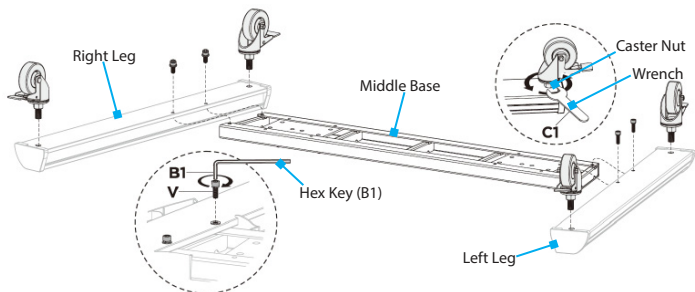

Figure 1
1. Flip the **Middle Base, Left Leg, and Right Leg** upside down and arrange as shown on a clean and flat surface. (Figure 1)
2. Slot the **Left and Right Legs** over the corner points on the **Middle Base** and secure in place with four **M6 x 25mm (V) screws** using the **Hex Key (B1)**.